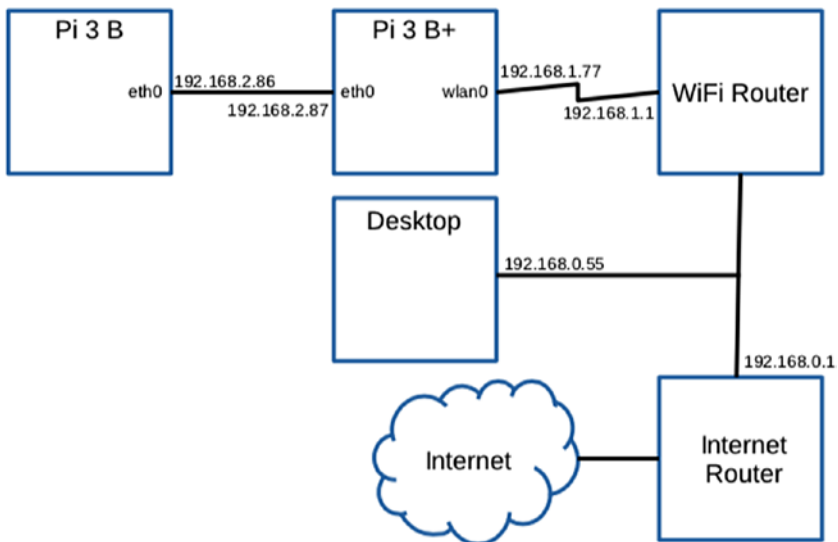

Figure 8-6. Example network for Pi 3 B+ and point-to-point connected Pi 3 B
It used to be necessary to use an ethernet *cross-over* cable but now this is unnecessary. The ethernet firmware now auto configures the ports with straight cables. Figure 8-6 illustrates the example network that I will use to make this discussion easier. Take a moment now to soak it in.
192.168.2.87 is the B+ end of that directly connected wired link (review Figure 8-6). It is important that the IP address be the *B+ end of that link*. If you mistakenly provide 192.168.2.86 instead, it would end up trying to forward to itself (B).